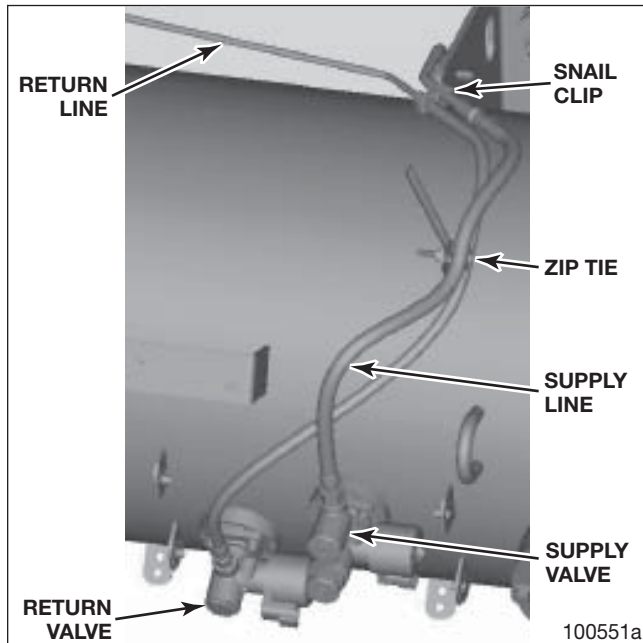
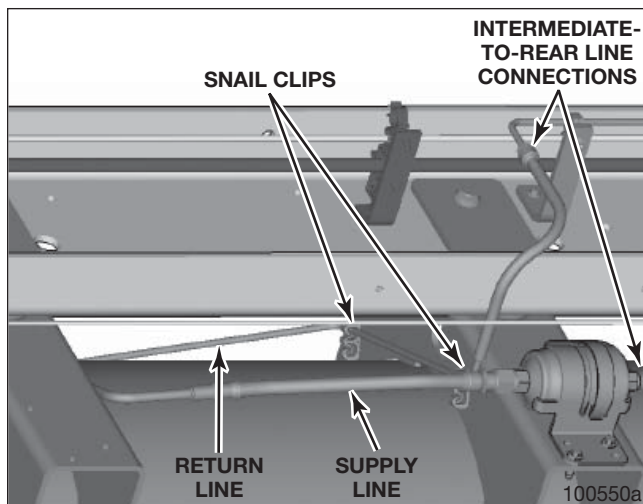
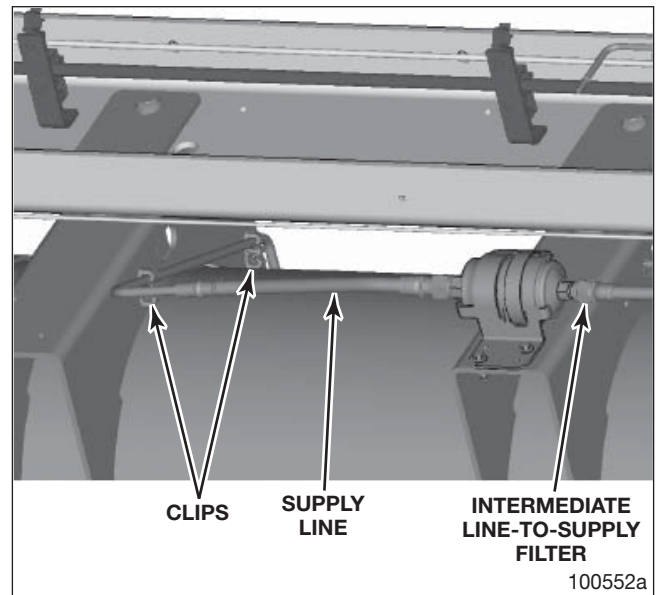

Figure 75 – F-59 Rear Supply and Return Lines
Figure 76 – F-59 Rear Supply and Return Lines
Figure 77 – F-59 Rear Supply and Return Lines
1. Place the return line in position on the tank and install it into the three snail clips. Figure 75 and Figure 76.
2. Place the supply line in position on the tank and install it into the two snail clips. Figure 76 and Figure 77.
7. Secure the lines together to the tank using a zip tie as shown in Figure 75.